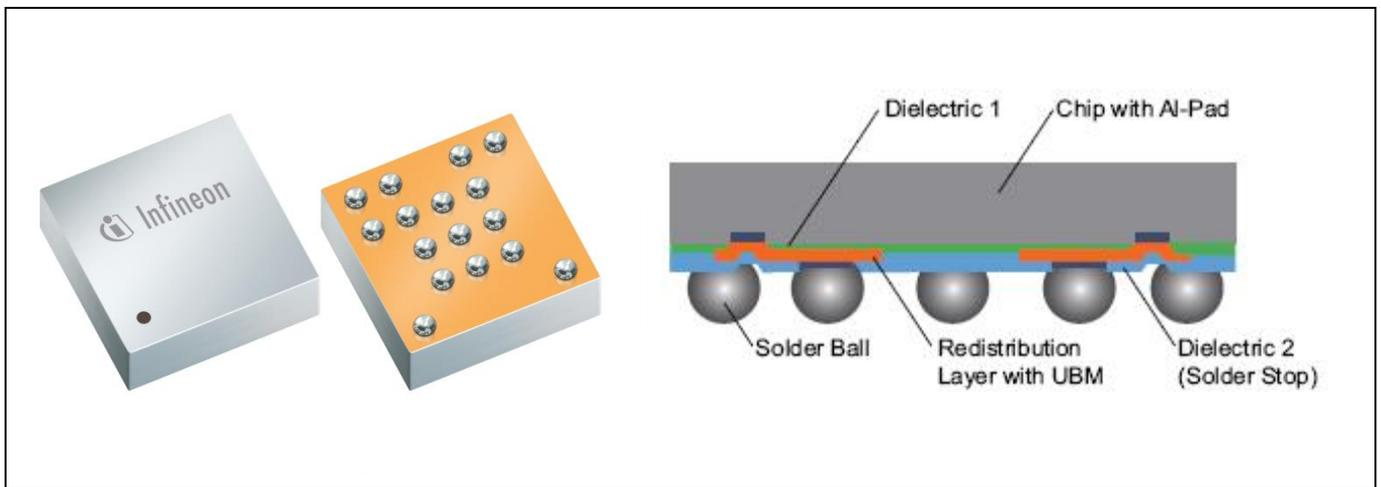

Figure 2 Illustration and schematic cross-section of an SG-VFWLB, SG-WFWLB or SG-UFWLB
- SG-VFWLB/SG-WFWLB/SG-UFWLB (please refer to Figure 2)